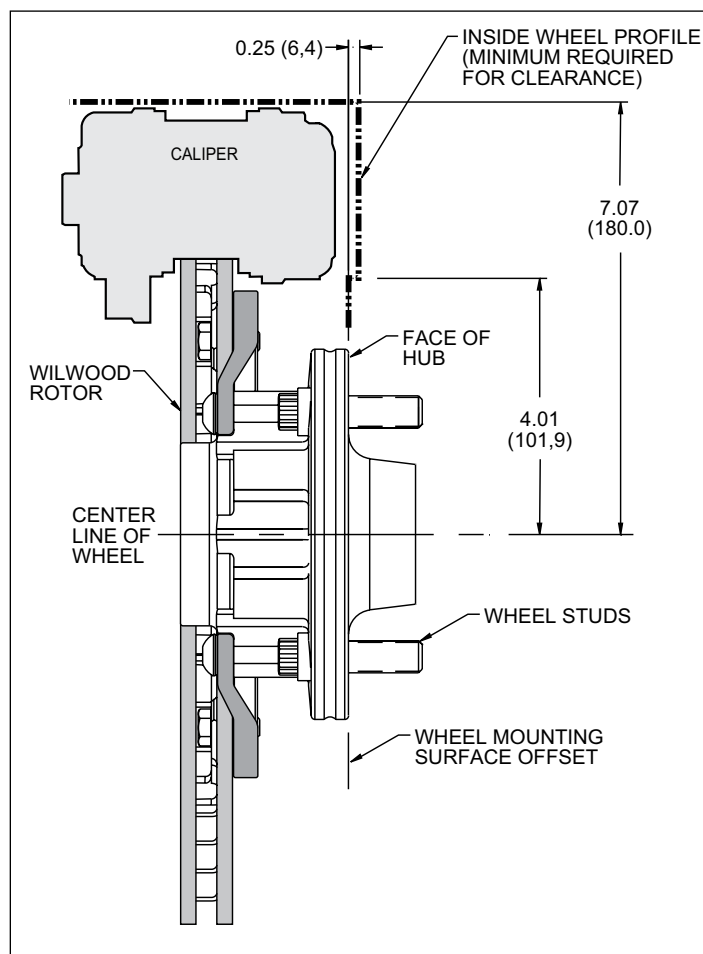

Figure 3. Wheel Clearance Diagram
- Review the wheel clearance diagram (Figure 3, page 5) to verify that there is adequate clearance with the wheels you will be using with the installation.
- Verify wheel clearance utilizing figure 3.